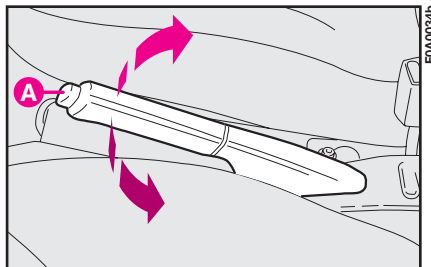

fig. 1
- 1) Slightly lift the handbrake and press release button **A**-fig. 1.